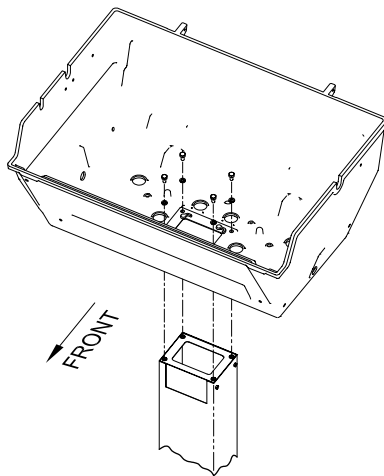

Figure 6
6. Position the grill head onto the post and fasten with ¼-20 x ¾ Hex Head and lock washers. See Figure 6.